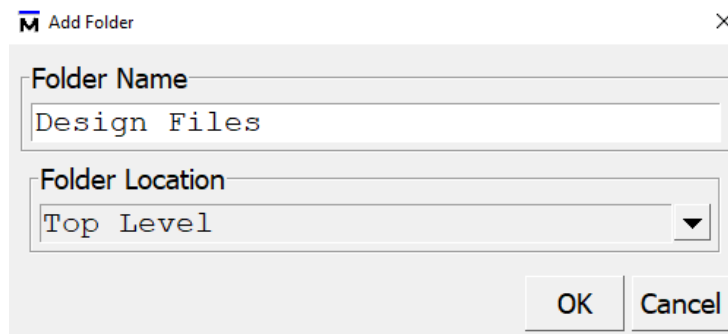

Figure 43
- c. Type **Design Files** in the **Folder Name** field (Figure 43).